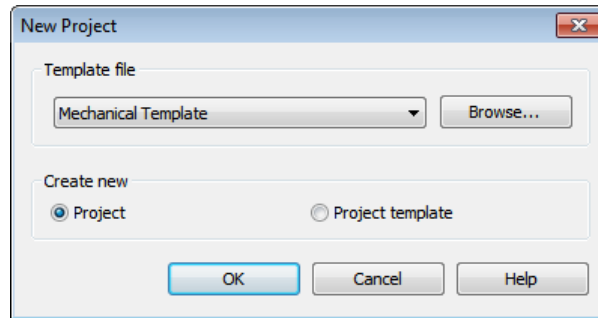

Figure 2-27 The New Project dialog box
- b. Use **Systems-Default** (Imperial) or **Systems-Default_Metric** (Metric) as the template file for the project, refer to Figure 2-27.
1. Click on the **Application** button; **Application Menu** is displayed. Choose **New > Project** from this menu; the **New Project** dialog box is displayed, as shown in Figure 2-27.